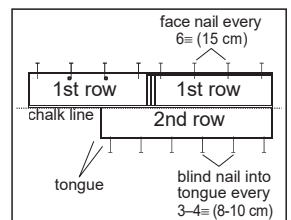

Figure 6
- Use the longest, straightest boards available for the first two rows. For random and alternate width products, use the widest plank for the first row. Align tongue of first row on chalk line. The groove should be facing the starting wall. Pre-drill 1/2" (13 mm) from back (groove) edge, 1"-2" (2.5-5 cm) from each end, and at 6" (15 cm) intervals when possible (Figure 6). Fasten using 4 or 6d finishing nails or 1" (2.5 cm) pneumatic finish nails/broads. Countersink the nails.